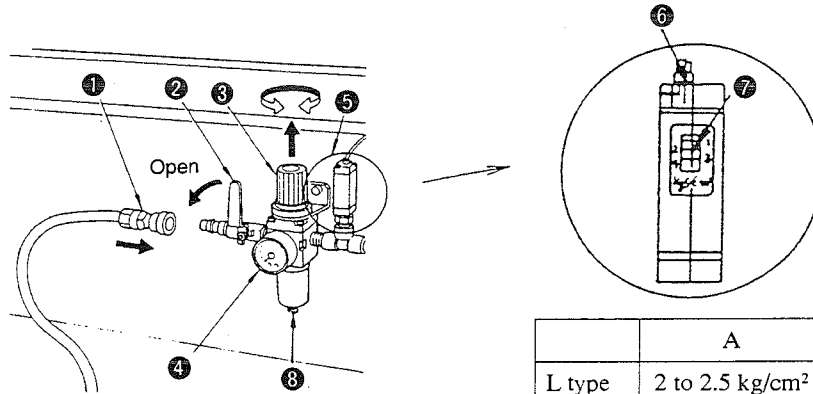

Fig. 5-34-1
- 1) Connect quick-coupling socket joint plug ① to the air source. When you open air cock ②, pressure gauge ④ will indicate value A. (Fig. 5-34-1)
- 2) If pressure gauge ④ indicates a value smaller than B, the machine will stop lighting up the error LED on the operation panel. (Fig. 5-34-1)
<p>1) Open air cock ②. Then pull up air regulator knob ③ and turn it until pressure gauge ④ indicates value A. Then push the knob down to fix it at that position. (Fig. 5-34-1)</p> <p>2) Adjust so that the pressure gauge indicates a value lower than B following the procedure same as 1). Turn adjusting screw ⑥ of pressure switch ⑤ until point ⑦ indicates value B. (Fig. 5-34-1) Turn ON the power to the sewing machine. Press the Set Ready switch on the operation panel, and confirm that error ●●○ is indicated on the panel when making the machine read out a pattern.</p> <p>(Caution) After the adjustment, re-set the value indicated on pressure gauge ④ to value A and confirm that error ●●○ is no longer indicated on the panel.</p>	<p>1) Malfunction related to the feeding frame or the intermediate presser will result. The sewing machine stops while indicating error ●●○ on the operation panel.</p> <p>2) The machine fails to detect a drop of the compressed air pressure. The sewing machine stops showing error ●●○ on the operation panel even if the normal operating pressure (value A) is obtained. * To set the air pressure to 0 kg/cm², close air cock ② and push-button ⑧.</p>